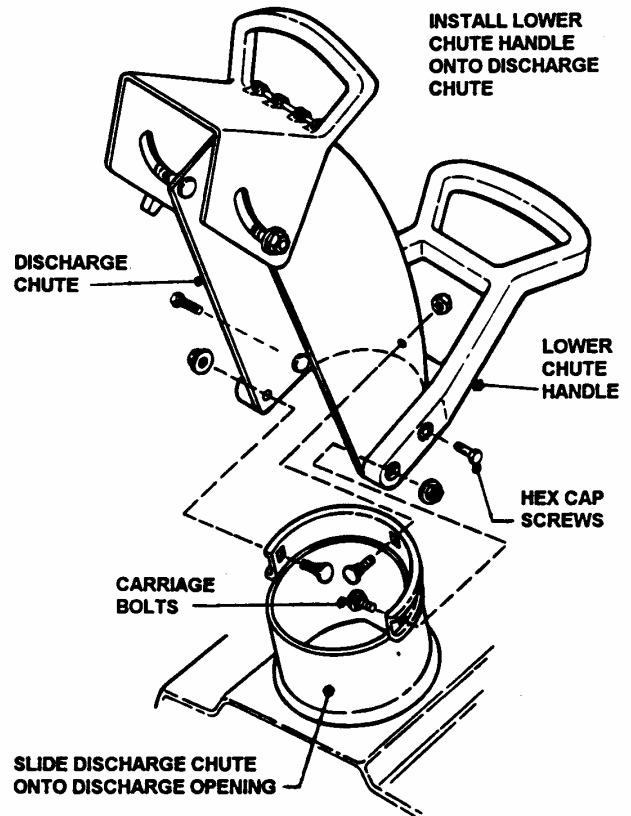

FIGURE 2
**STEP 2:** Install lower chute handle onto chute with two hex cap screws. Install chute/handle assembly onto discharge opening and secure with three carriage bolts and nuts. Tighten all nuts and bolts securely but, do not overtighten. See Figure 2.